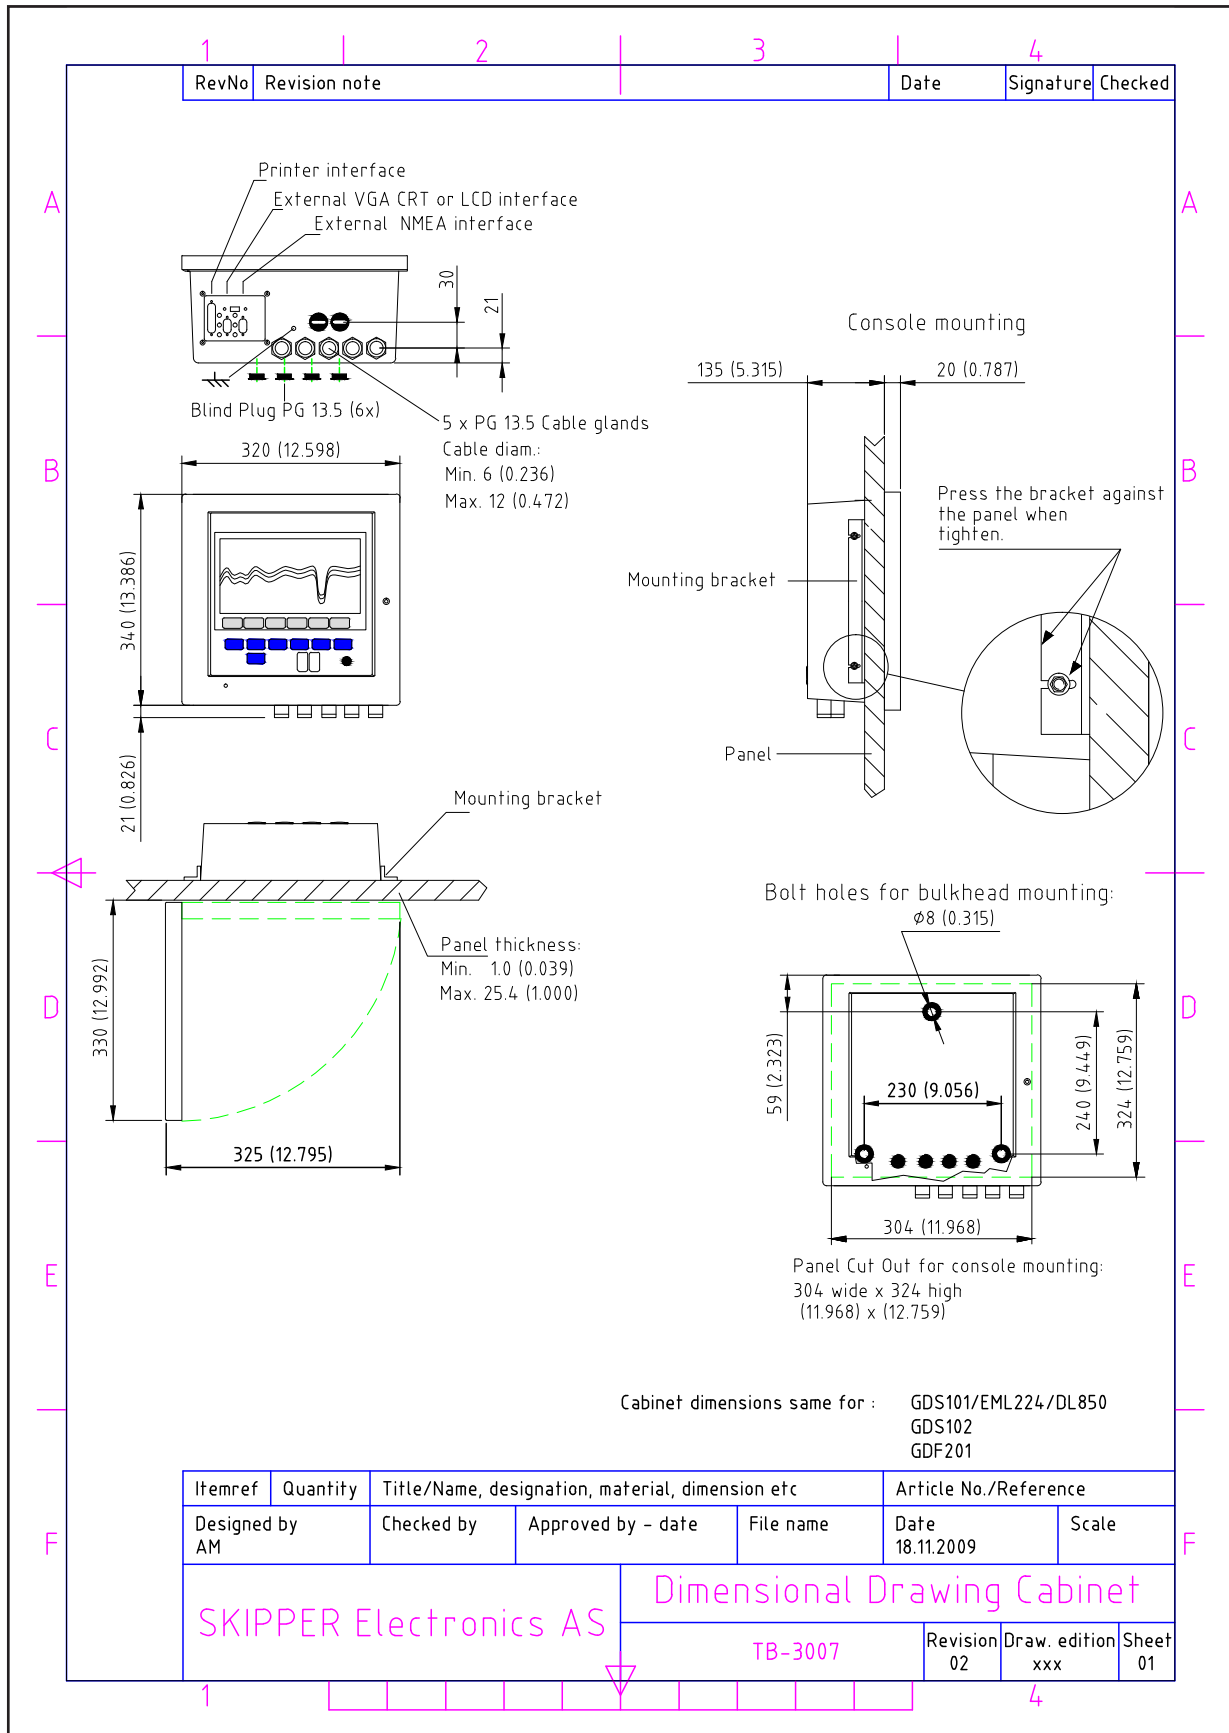

Fig. 11.3 Outline dimensions Display Unit
- Fig. 11.3 Outline dimensions display unit. See “Fig. 11.3 Outline dimensions Display Unit” on page 62.